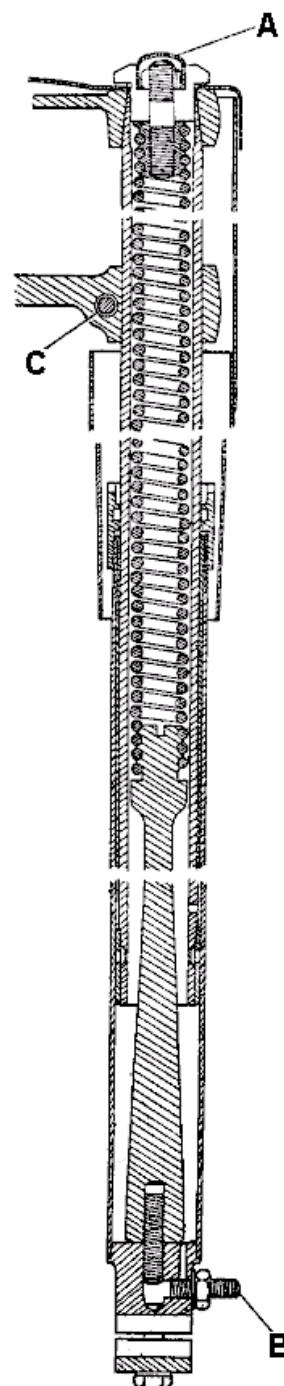

Fig. D33.
Prise out the top cap (A) Fig. D33 and unscrew the  $\frac{3}{8}$  in. nut holding the top spring scroll.